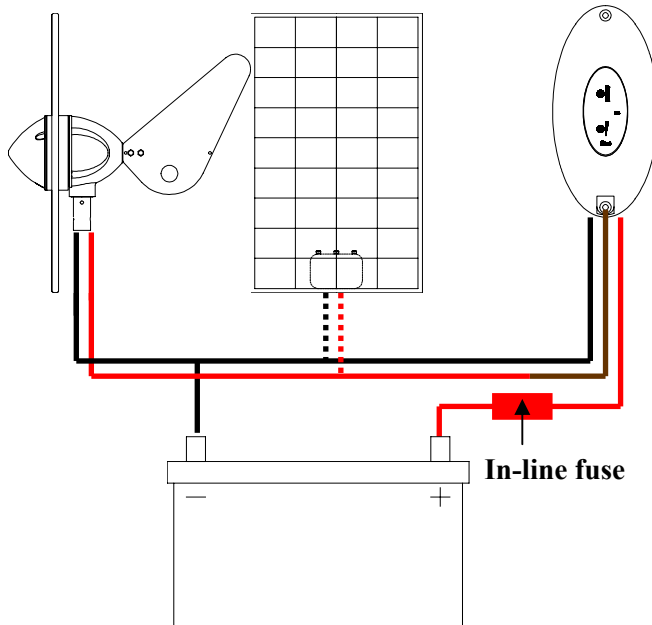

Fig 3
2. Select one of the basic wiring systems in Figs 3, 4 & 5 and follow the manual provided with the selected charge regulator.